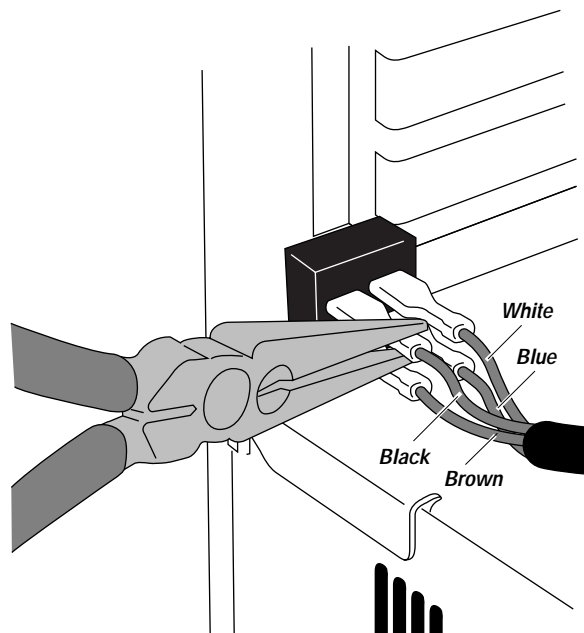

Figure 5-28 Removing the connectors from the power switch
2. *Using a pair of needlenosed pliers, pull the four connectors off the power switch (see Figure 5-28 on page 5-39).*
2. **Reseat the four connectors on the switch. If you aren't sure where a connector should be connected, see the label next to the power switch on the back of the Fiery XJ BP100 chassis. Also see Figure 5-28.**
4. *Using needlenosed pliers, disconnect the connectors from the power switch on the back panel (see Figure 5-28 on page 5-39).*